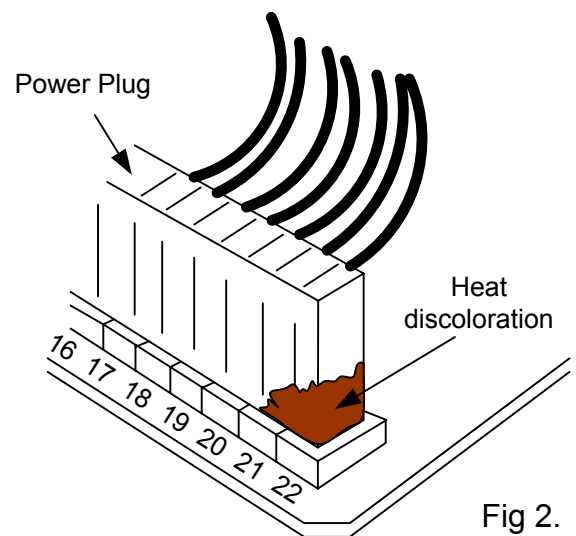

Fig 2.
2. If the unit is older than 1998, examine the circuit board around pins 21 and 22 of the power plug. If there are any signs of burning, discoloration, or heat damage, the actuator unit will need to be replaced. (Fig. 2)
If there are 12 volts across the pins and the power plug (Fig. 2) is making contact with the circuit board, the actuator needs to be replaced.